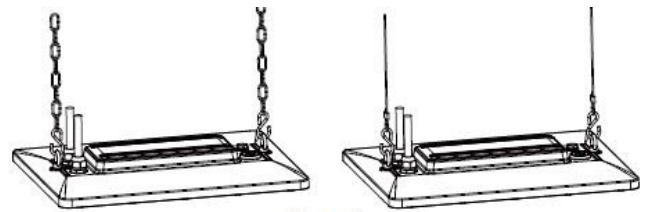

Figure 3
1. Attach the S-hook of the chain or safety cable to the ring of the fixture. (Figure 3)